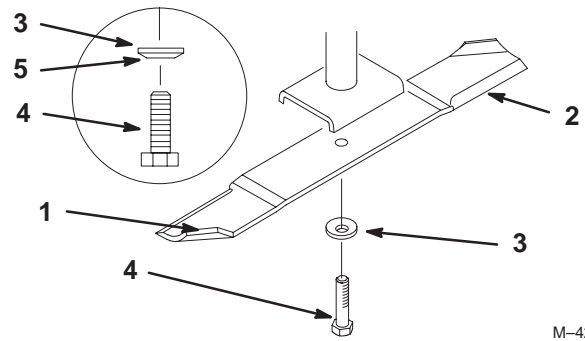
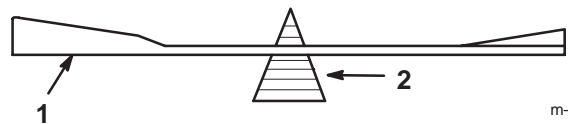

Figure 30
Figure 32
Hold the blade end using a rag or thickly-padded glove. Remove the blade bolt, spring disk, and blade from the spindle shaft (Fig. 30).
2. Check the balance of the blade by putting it on a blade balancer (Fig. 32). If the blade stays in a horizontal position, the blade is balanced and can be used. If the blade is not balanced, file some metal off of the end of the sail area only (Fig. 30). Repeat this procedure until the blade is balanced.
1. Install the blade onto the spindle shaft (Fig. 30).
2. Install the spring disk and blade bolt. The spring disk cone must be installed toward the bolt head (Fig. 30).